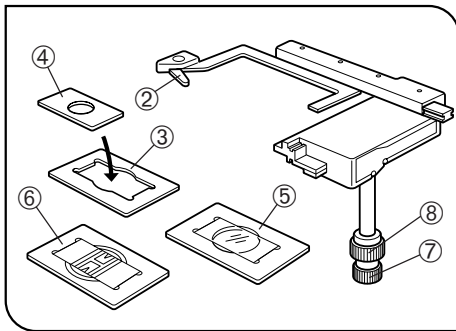

Fig. 7
1. When using a 96-well or 24-well micro-titer plate, extend the specimen holder ② to directly hold the micro-titer plate. (Fig. 7)
- Terasaki holder ③ (AB4488): For Terasaki plate, 35 mm petri dish holder ④ or 65 mm petri dish.
- Slide glass holder ⑤ (AB4489): For slide glass, 54 mm petri dish.
- Blood cell test plate holder IX2-BCTP ⑥ (optional): For a blood cell test plate holder or other calculating chamber for bacteria and eosinophil with mounting section dimensions corresponding to  $H 77^{+0.3}_0 \times V 35^{+0.3}_0 \times D 2 \text{ mm}$ , or for a 60mm petri dish.
3. The specimen can be moved to the desired position by turning the X-axis knob ⑦ and Y-axis knob ⑧ (Stroke: 120 mm in X-axis direction, 78 mm in Y-axis direction).